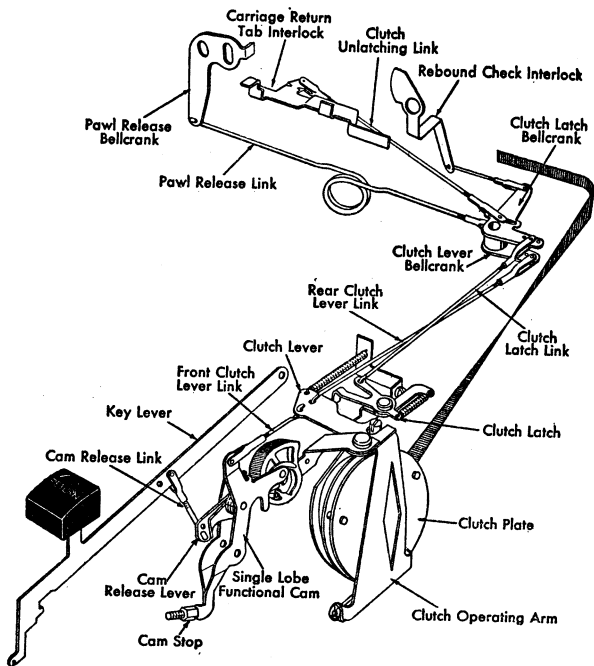

Figure 42. Carriage Return Mechanism
2. **CAM RELEASE LINK.** Place this first in the bottom hole of the cam release lever and in the rear hole of the key lever. Adjust it so that the cam will trip when the key lever is depressed from three-fourths up to and including its full normal travel (Figure 42). When properly adjusted, it will allow the cam to repeat when the key lever has depressed the spring loaded plunger 1/16".
clutch lever bellcrank is parallel to the rear rail (Figure 42).
and the clutch latch resting against the clutch lever, adjust the link so that the slot in its bellcrank is parallel to the rear rail (Figure 42).
16. THE PAWL RELEASE LINK should be adjusted so that, with the clutch latched, the escapement pawl will clear the escapement rack by $1/64$ " (Figure 42).